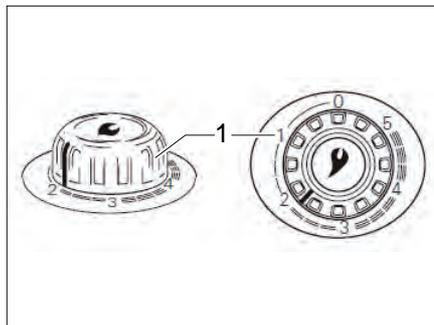

Fig. 108 Hot-air heater control knob
- Turn the control knob on the heater (Fig. 108,1) to the required position and press down to its stop limit.
- Turn the control knob at the heater (Fig. 108,1) to "0". The automatic ignition is switched off simultaneously.
- ▷ Further information can be obtained from the separate instruction manual "Truma S 3004 (P) / S 5004".